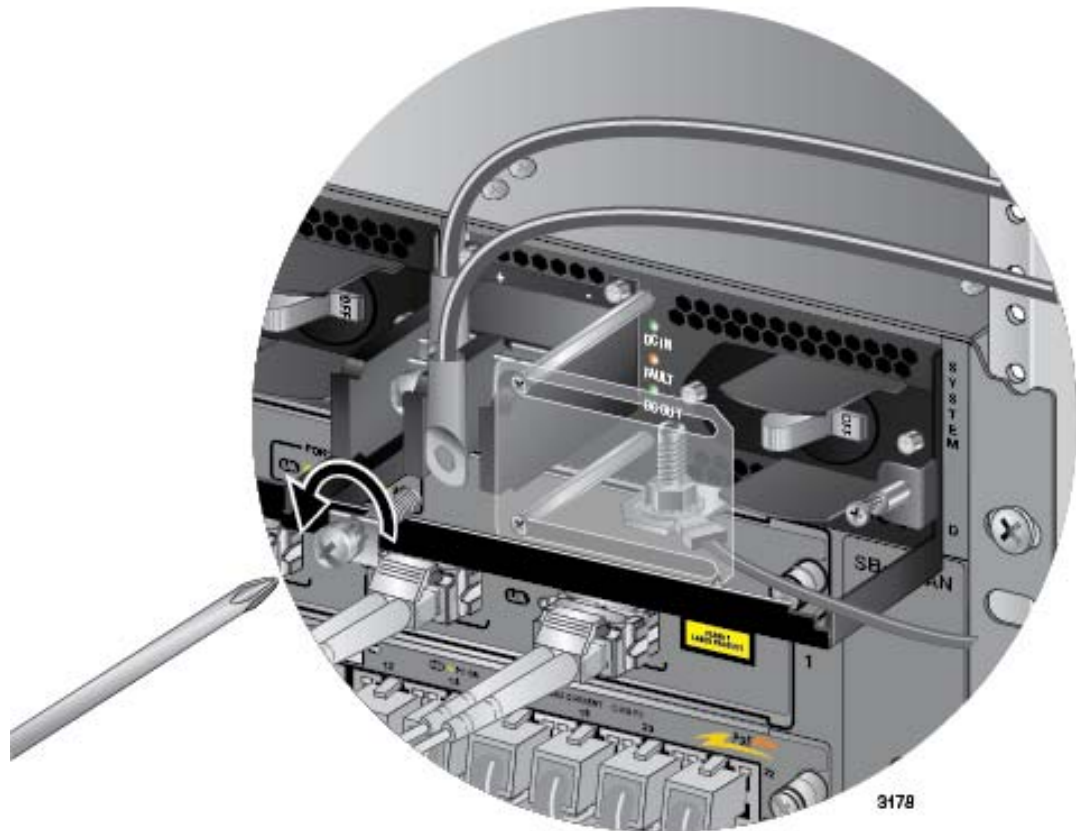

Figure 161. Removing the Negative Lead Wire
5. Use a #3 screwdriver to remove the negative (-) lead wire from the terminal block. The negative lead wire is on the right. Refer to Figure 161 on page 263.